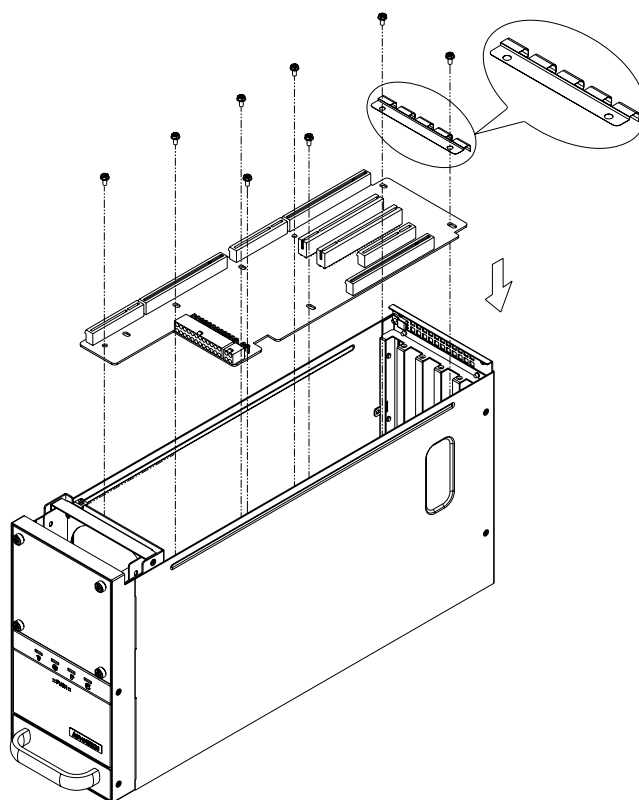

Figure 2.2 Installing the backplane
1. After installing a BACKPLANE, install the EMI finger (included in accessory box) on the rear side of the backplane (see Figure 2.2)
2. And then fasten both backplane and EMI figure in place with the screws provided. (see Figure 2.2)